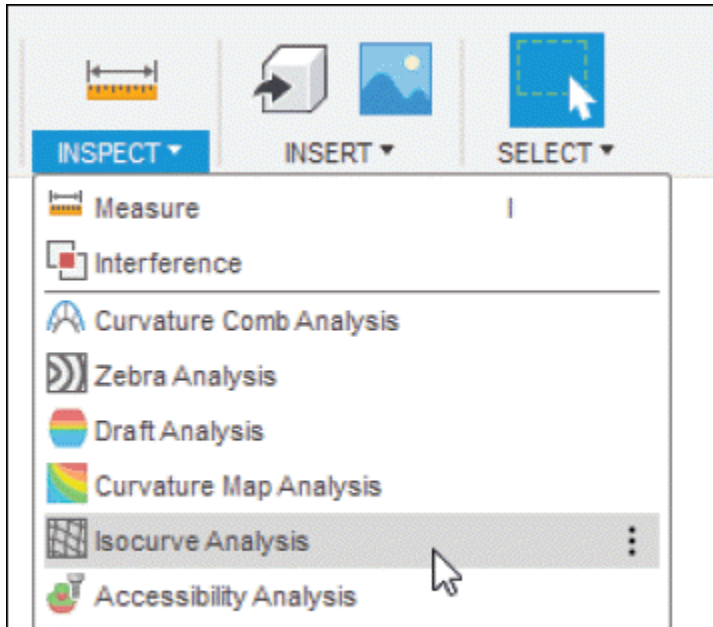
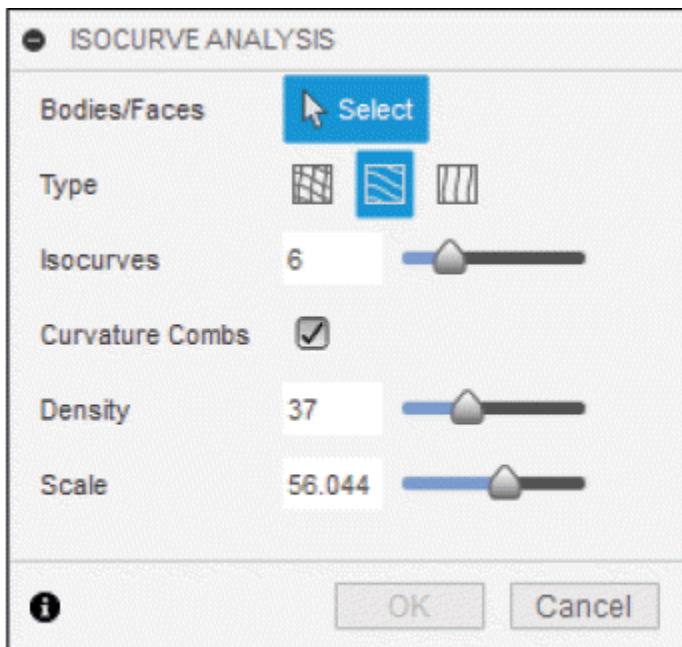

Figure-54. Isocurve Analysis tool
Figure-55. ISOCURVE ANALYSIS dialog box
- Click on the **Isocurve Analysis** tool of **INSPECT** drop-down from **Toolbar**; refer to Figure-54. The **ISOCURVE ANALYSIS** dialog box will be displayed; refer to Figure-55.